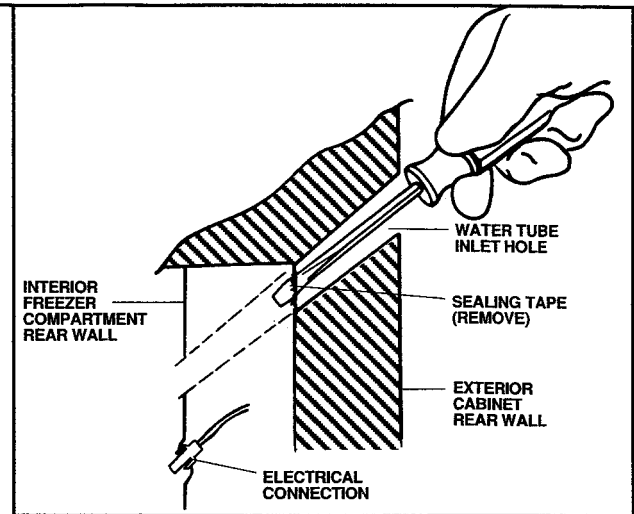

Figure 8
8. From the rear exterior of the refrigerator, use a flat-blade screwdriver to pierce the interior sealing tape that covers the hole for the water tube inlet. Clear a path for the water fill tube. See Figure 8.